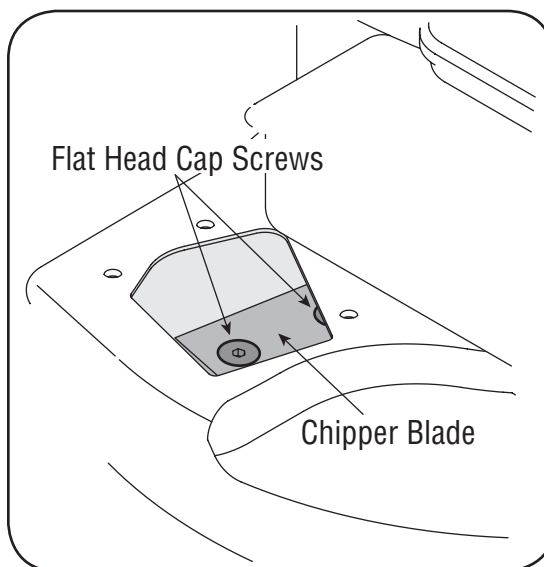

Figure 5-9
9. Using a 3/16" allen wrench, remove the flat head cap screws that hold the chipper blade to the impeller. These screws are accessible through the opening created when the chipper chute was removed earlier. See Figure 5-9.